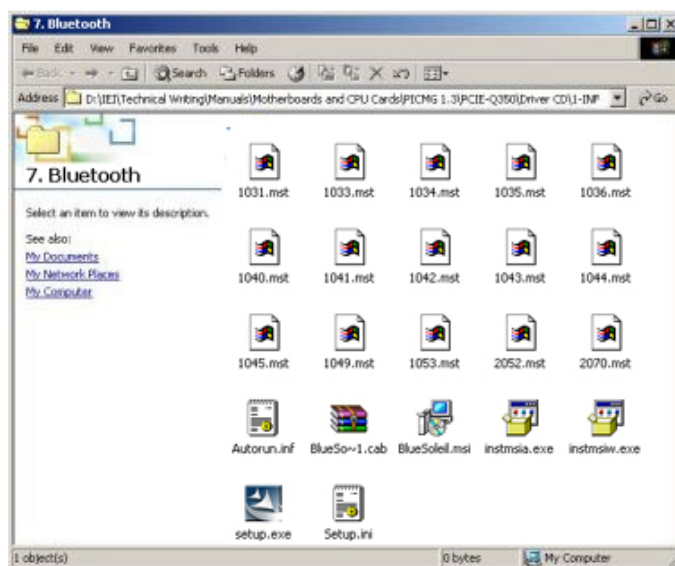

Figure 7-29: Bluetooth Driver Icon
Step 2: A new window opens (**Figure 7-29**). Click the **Setup.exe** to install the touch screen driver.